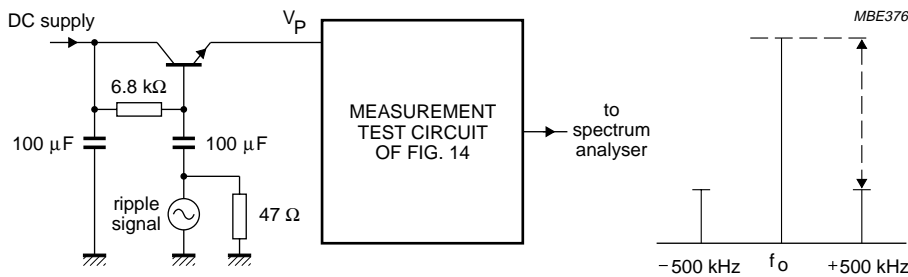

Fig.5 Ripple susceptibility measurement.
- The frequency ripple susceptibility is measured at 500 kHz at the LO output (see Fig.5). The level of the ripple signal is increased until a difference of 53.5 dB is reached at the IF output.